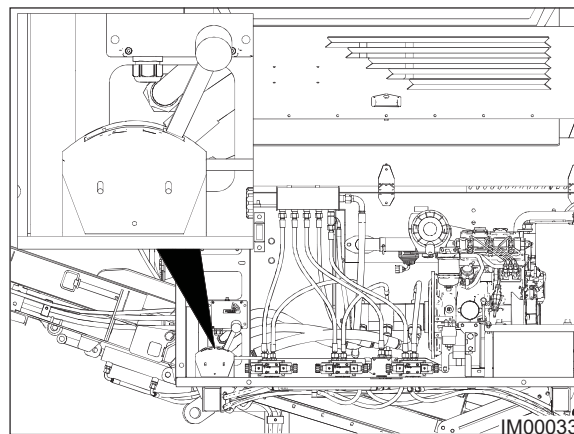

Fig: 8.7 - Throttle Lever
9. Using the Manual Throttle Lever (Fig: 8.7), increase the engine speed to maximum (2800 RPM).